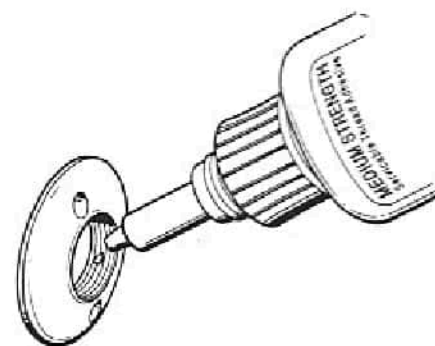

Fig. 13 - Thread Adhesive Application
18. Place the large end of the swivel cap(31) over the stem of the piston cap, and press it down until it audibly snaps into place.
19. Apply only one small drop of medium strength (serviceable) thread adhesive to the center threads of the swivel retainer(34), and immediately mate the retainer onto the piston cap stem (see Fig. 13). Turn the retainer clockwise by hand to engage the threads.